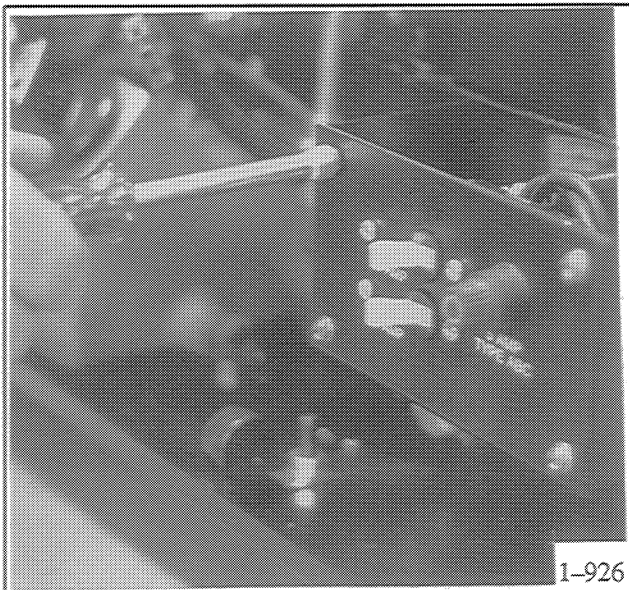

Figure 8-7. Removing AC Circuit Breaker Panel
10. Remove four screws from AC circuit breaker panel using 1/4 in. nutdriver or socket wrench. See Figure 8-7.